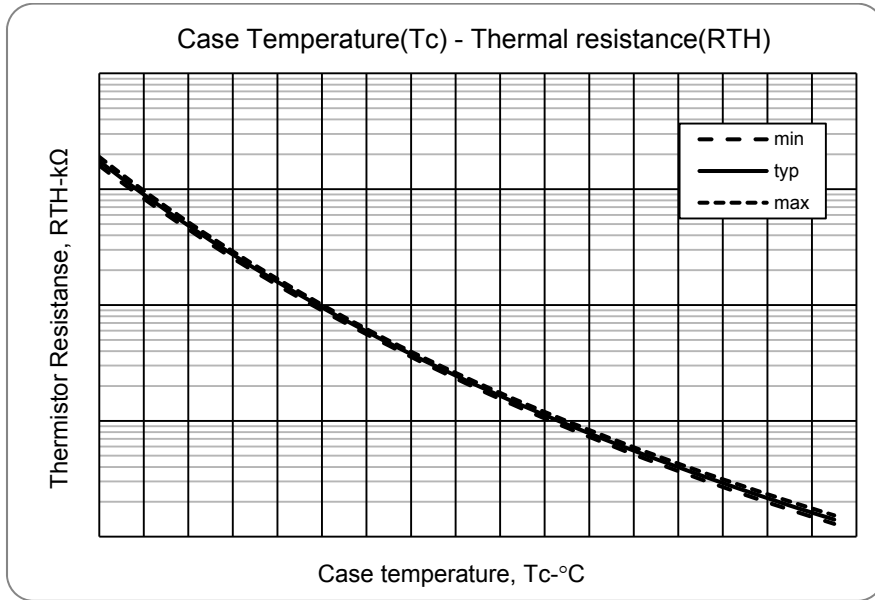
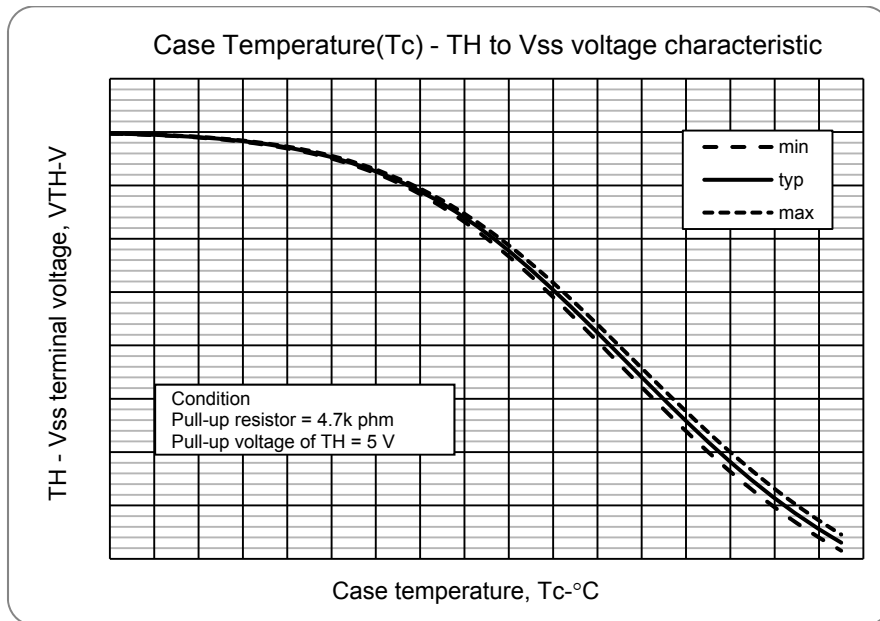

Fig.9 Variation of thermistor resistance with temperature
Fig.10 Variation of temperature sense voltage with thermistor temperature
- Inside the IPM, a thermistor used as the temperature monitor for internal substrate is connected between VSS terminal and TH terminal, therefore, an external pull up resistor connected between the TH terminal and an external power supply should be used. The temperature monitor example application is as follows, please refer the Fig.9, and Fig.10 below.